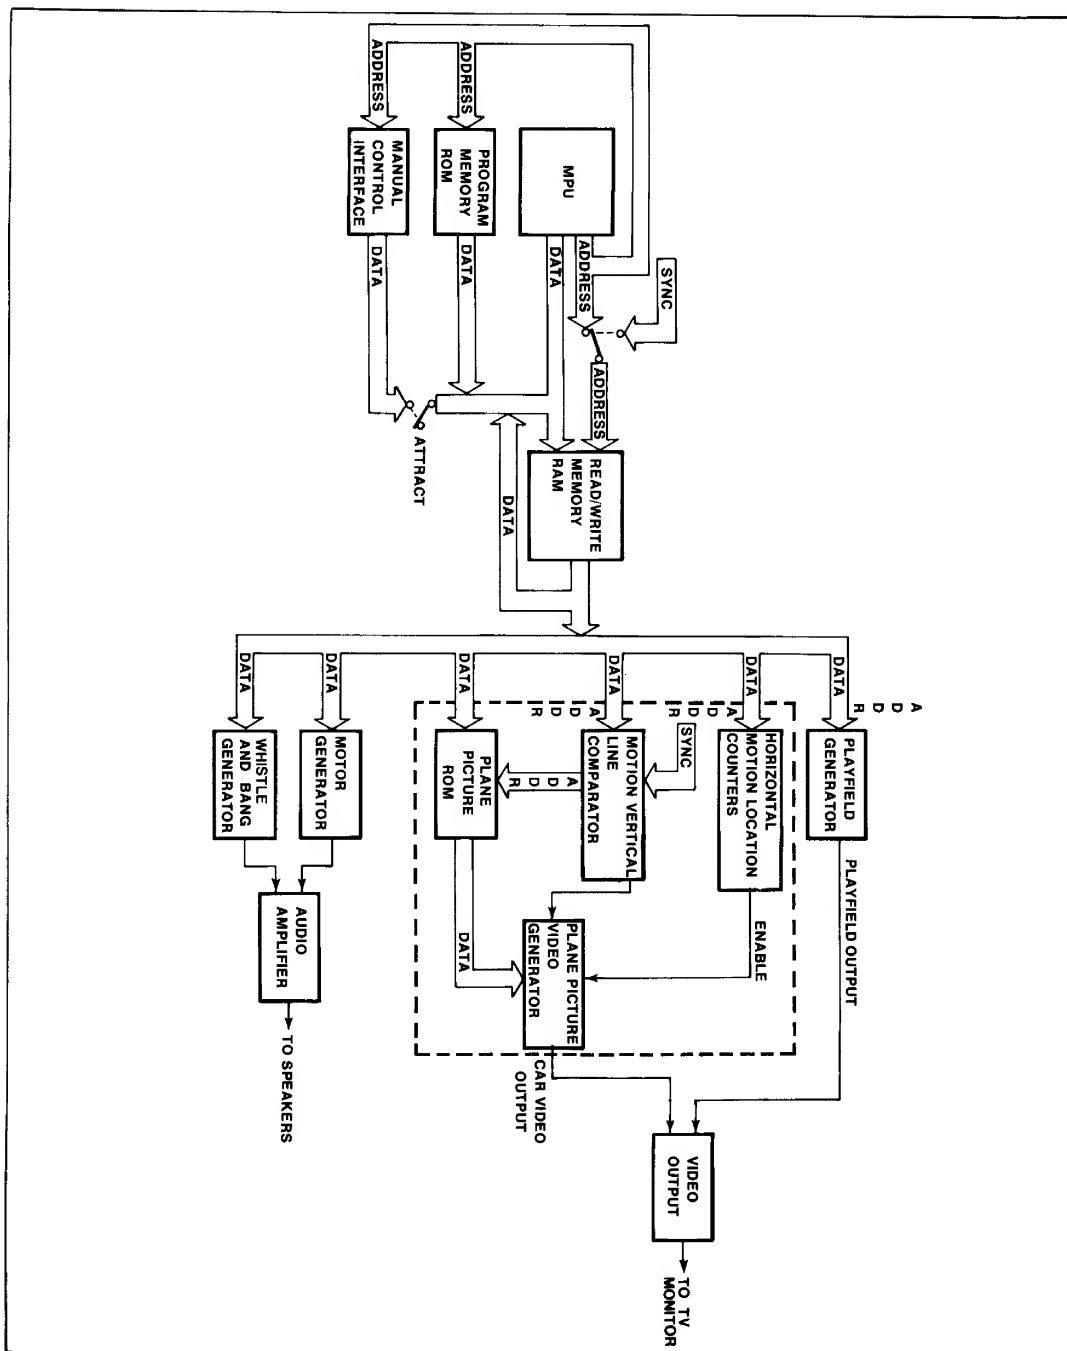

Figure 4-2 Canyon Bomber PCB Block Diagram
The following circuitry discussion is separated into two sections—the microcomputer circuitry and game circuitry. Figure 4-2 is a block diagram of the entire Canyon Bomber PCB.
B. COMPONENTS OF THE MICROCOMPUTER SYSTEM (Refer to Figure 4-2)
tal synchronization pulse 4H by D-type flip-flop C6. The 4H input of C6 (pin 13) is fed twice through the flip-flop at a clock rate of 12.096 MHz. The output of the first flip-flop and the output of the second flip-flop is fed through an OR gate to produce a phase 0 ($\Phi 0$) signal, as illustrated in Figure 4-2. The MPU provides an output of $\Phi 2$ that is exactly like $\Phi 0$, except with a slight delay, and an output $\Phi 1$ that is of an opposite phase of $\Phi 2$.